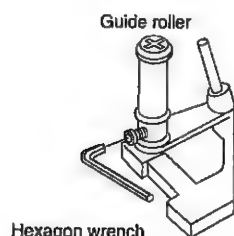

Figure 4-30.
- b) Loosen the setscrew at the lower part of the guide roller, and adjust it with an adjusting screw driver (JiGDRIVERH-4) so that the guide roller turns smoothly. (Do not overloosen the setscrew, which causes insecurity of the guide roller.) (See Figure 4-30.)